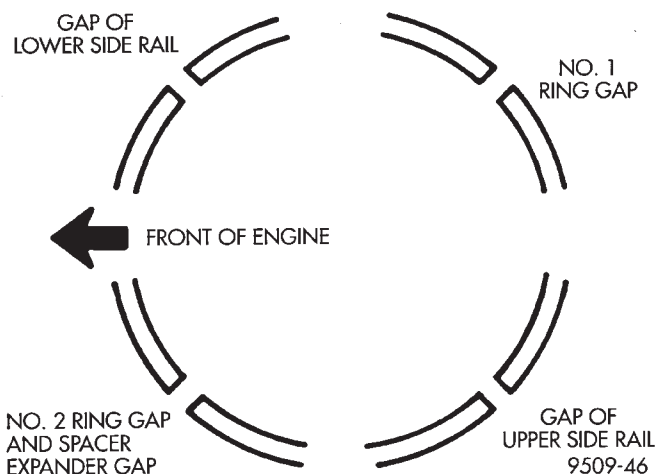

Fig. 92 Piston Ring End Gap Position
(4) Position piston ring end gaps as shown in (Fig. 92).
(5) Position oil ring expander gap at least 45° from the side rail gaps but **not** on the piston pin center or on the thrust direction. Staggering ring gap is important for oil control.
(2) Before installing the ring compressor, make sure the oil ring expander ends are butted and the rail gaps located as shown in (Fig. 92).